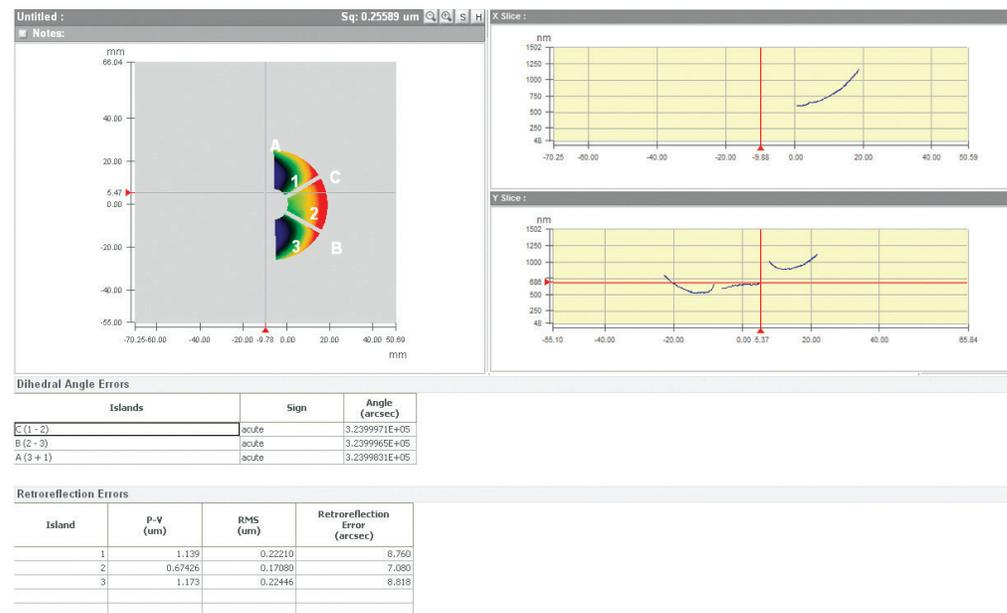

Figure 3. Corner Cube Analysis for a Double Pass measurement.
- g. Click OK to run and display the Corner Cube Analysis (Figure 3).
Tip: By default, the analysis also displays additional information including Tilt, Tilt Angle and Beam Deviation for each face. These columns can be hidden, as in Figure 3. To hide the data, right-click in either of the tables, select **Column Chooser**, and deselect the parameters to hide.